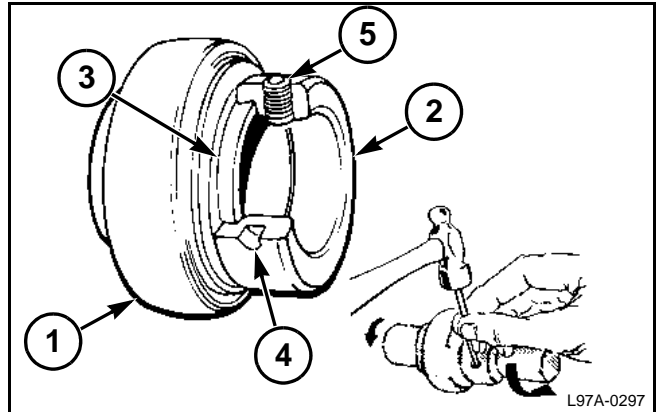

FIG. 11
FIG. 11: The bearing (1) is held in position on the shaft by a locking collar (2). The locking collar has an eccentric counterbore that engages the eccentric end of the bearing inner race (3) when the locking collar is rotated.